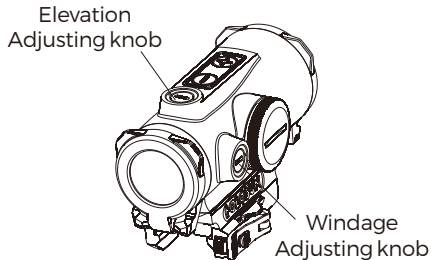

Fig 8
1. On top of sight is the elevation adjusting turret, windage adjusting turret is on the right side (see Fig 8). The sight has been factory adjusted for approximate zero.
2. The built in screw driver tool on the protective cap can be used for zeroing adjustment (see Fig 8). See label inside cap.